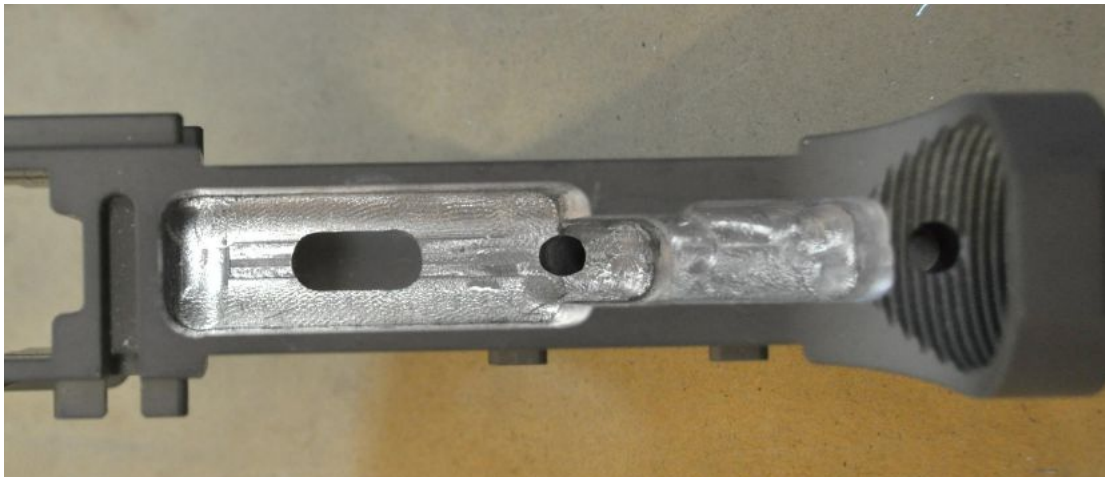

Figure 4.8: With the trigger and rear-shelf pockets finished and the trigger slot cut
- Remove the template, complete trigger slot is shown in figure 4.8